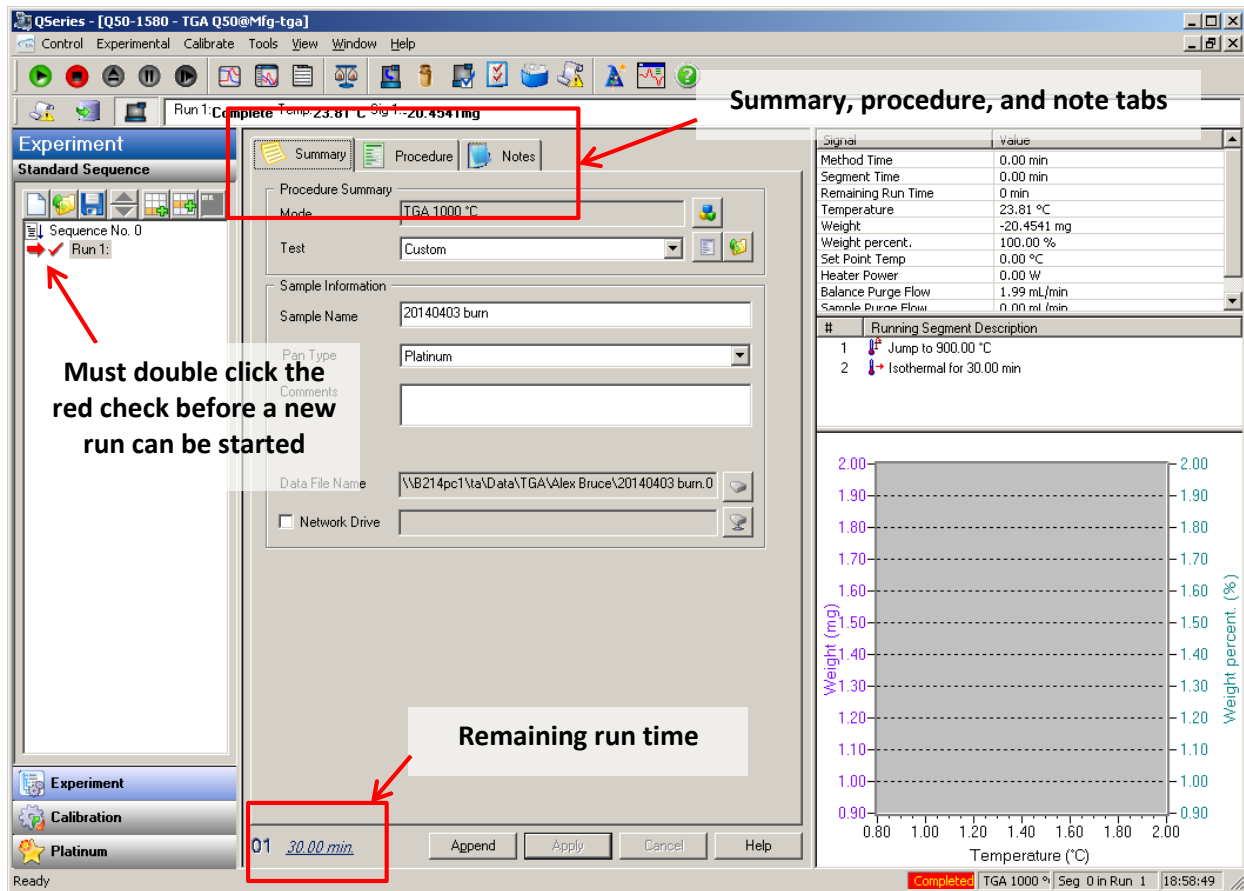

Fig. 7, the software screen as you open it.
12. There are three main tabs in the middle section, Summary, Procedure, and Notes (**Fig. 7**). In the Summary tab enter your sample name and any comments. Specify where you would like to save by clicking the icon next to Data File Name.